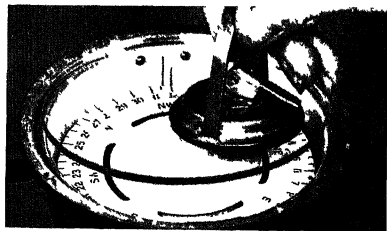

Figure 10-10.—Removing the cover glass.
5. With a suction gripper (fig. 10-10), lift the glass. (CAUTION: The glass is beveled to a thin edge and chips easily.)